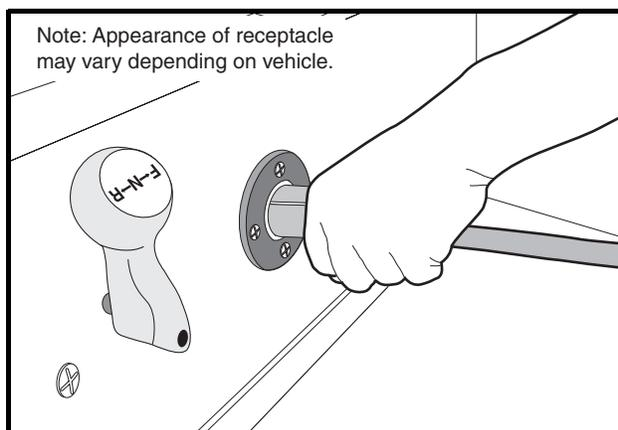
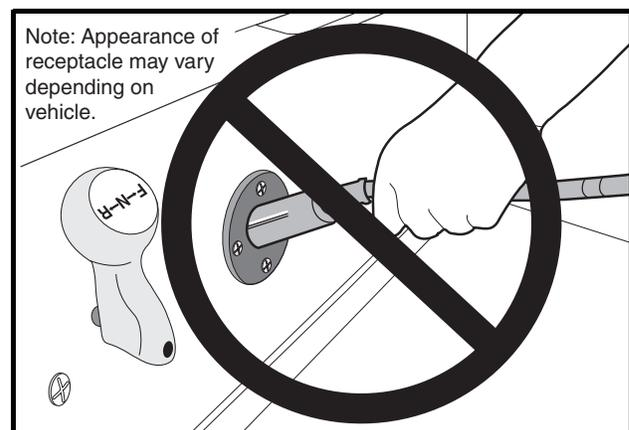

Figure 6-4 Charger Receptacle
Figure 6-5 Incorrect DC Plug Removal
- The battery charger DC plug must be pulled slowly from the receptacle (Figure 6-4, Page 6-5). Jerking or pulling the DC cord out quickly could cause arcing that could damage the plug and receptacle and could cause batteries to explode (Figure 6-5, Page 6-5).
- **The charger plug must be pulled slowly from the receptacle (Figure 6-4, Page 6-5). Jerking or pulling the DC cord out quickly could cause arcing and burning that could damage the plug and receptacle and could cause batteries to explode (Figure 6-5, Page 6-5).**
- Do not rock or bend the plug. To connect the charger plug to the vehicle receptacle, grasp the plug handle and push the plug straight into the receptacle (Figure 6-4, Page 6-5).
- Do not pull on the DC cord (Figure 6-5, Page 6-5). Do not twist, rock or bend the plug. To disconnect the charger plug from the vehicle receptacle, grasp the plug by the handle and pull the plug straight out of the receptacle.
2. Connect the charger DC plug to the vehicle charger receptacle located on the seat support panel (**Figure 6-4, Page 6-5**). The charger will activate automatically within 2 to 15 seconds after the DC plug is connected. **See following WARNING.**
- **Do not rock or bend the DC plug. To connect the charger plug to the vehicle receptacle, grasp the plug handle and push the plug straight into the receptacle (Figure 6-4, Page 6-5).**